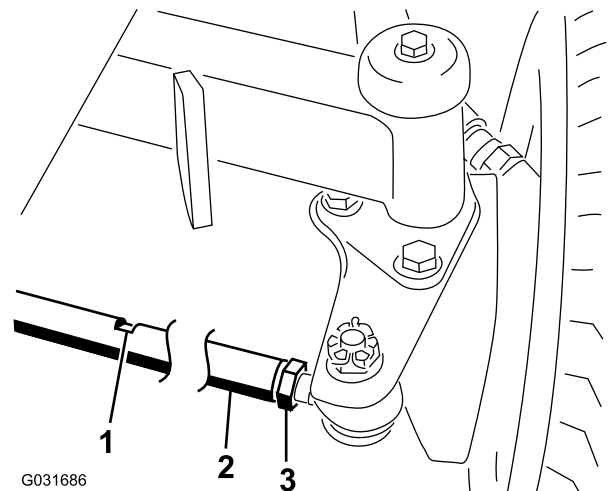

Figure 84
2. Loosen the jam nut on each end of the tie rod (Figure 84).